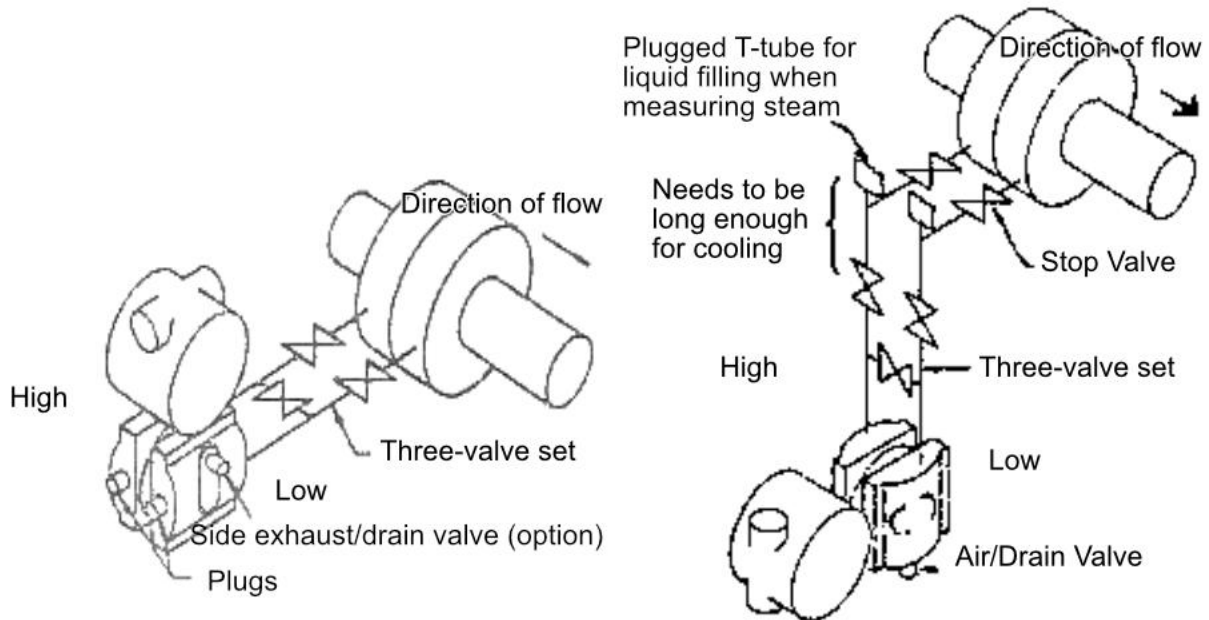

Figure 2.4 Schematic diagram of liquid medium connection. Figure 2.5 Schematic diagram of steam medium connection
**When measuring the pressure of liquid medium,** the pressure tap must be selected on the side of the process pipeline to avoid slag deposition. The intelligent transmitter should be installed below the side pressure port so that the gas can be discharged into the process pipeline, as shown in Figure 2.4.